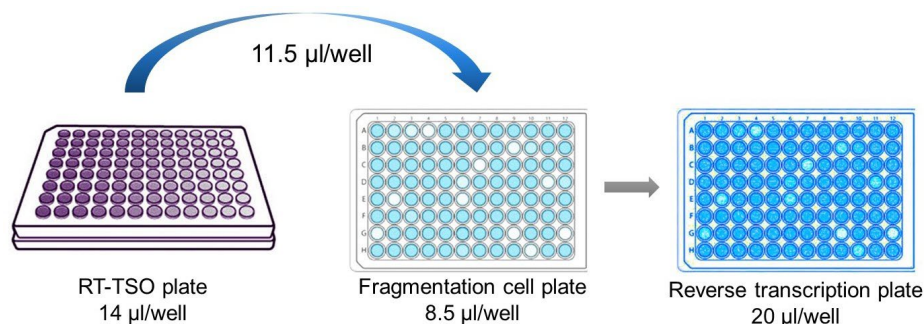

Figure 9. Creating the final plate used in the reverse transcription reaction.
10. Transfer 11.5 μ l RT mix from the RT-TSO plate (from Step 8) into the fragmented cell plate (from Step 3) as shown in Figure 9 to create the plate that will be used in the RT reaction. Pipette up and down twice to mix well.